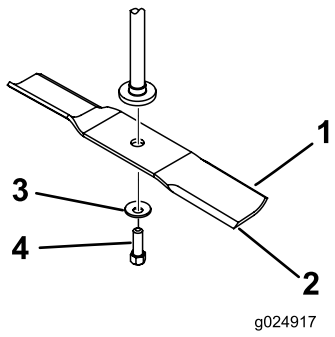

Figure 49
Hold the blade end using a rag or thickly-padded glove. Remove the blade bolt, curved washer, and blade from the spindle shaft (Figure 49).
- Install the blade onto the spindle shaft (Figure 49).
- Install the curved washer (cupped side toward the blade) and the blade bolt (Figure 49).